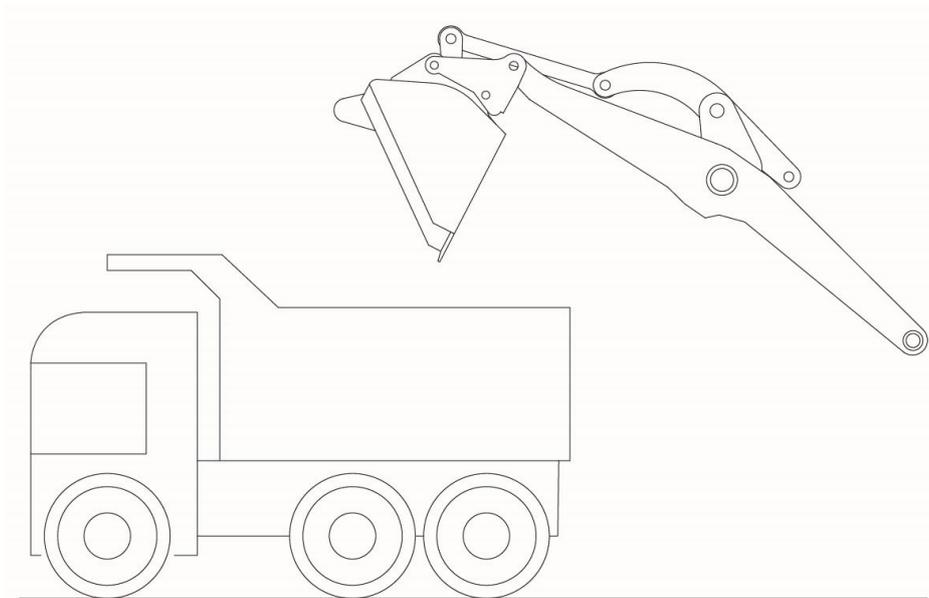

Figure 5-49 Loading operation (5)
Step 8: Push the handle forward to make the bucket tilt forward for unloading. When unloading, it is required to move slowly to reduce the impact of the material on the loader. When the material sticks to the bucket, operate the handle back and forth to make the bucket shake and remove the material, as shown in Figure 5-49;